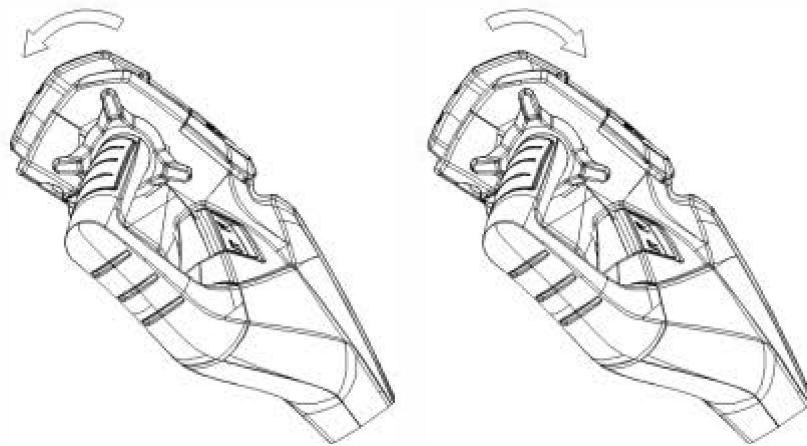

Fig.3
- Rotate the accelerate knob ,make the direction same as the truck movement , figure 3